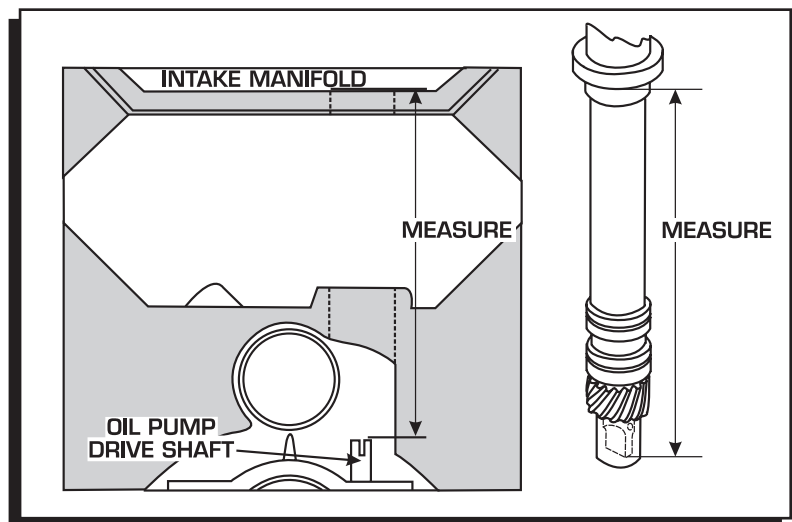

Figure 8 Measuring Oil Pump Shaft Overlap.
1. Measure the distance between the base of the slip collar to the tip of the distributor shaft (Figure 8).
2. Using a straight edge, measure the distance from the intake manifold distributor flange to the top of the oil pump shaft (Figure 8).